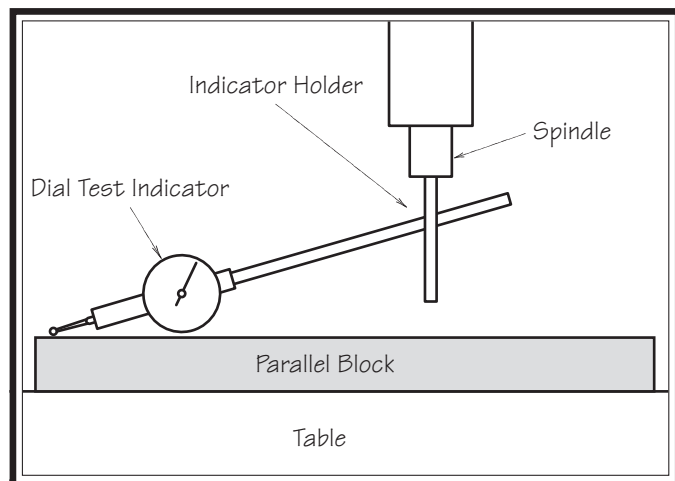

Figure 83. Dial test indicator mounted.
4. Install indicator holder into spindle or quill, then mount indicator onto it so point is as parallel to block as possible, as illustrated in **Figure 83**.